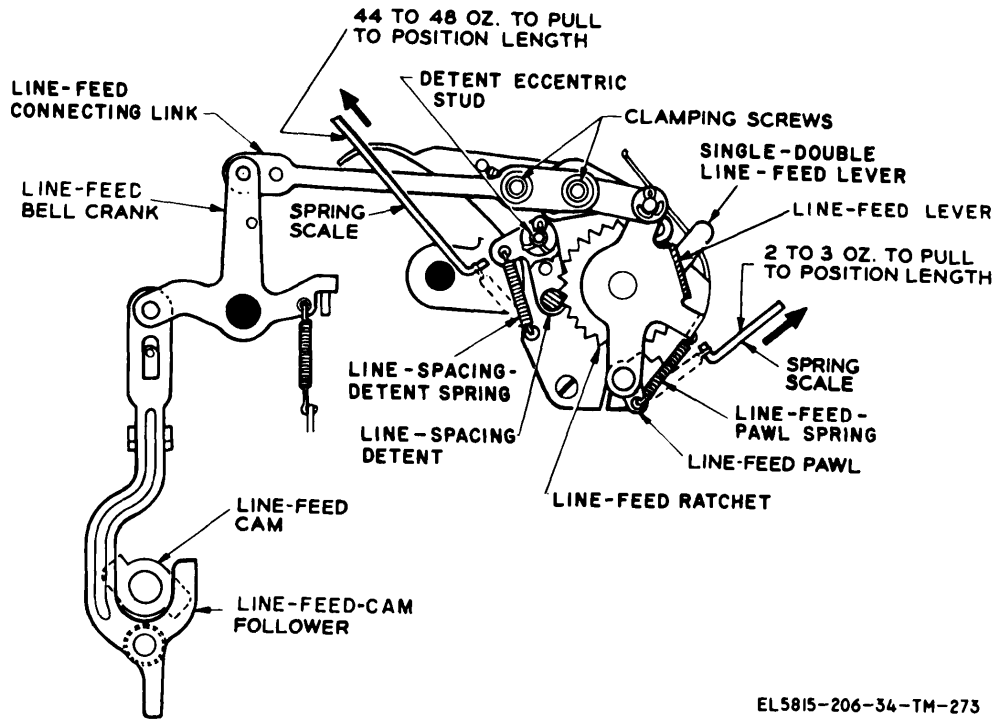

Figure 3-201. Line-feed mechanism, side view (TT-4A/TG and TT-698/TG).
(fig. 3-201 and 3-202)
(1) Loosen the clamping screws (fig. 3-201). Select the line-feed combination and turn the motor manually until the line-feed-cam follower is against a high part of its cam. Rotate the line-feed lever until the platen has advanced one line space. Tighten the clamping screws. Continue turning the motor until line-feed operation is completed.
(2) Check the requirement (a (2) above) visually.